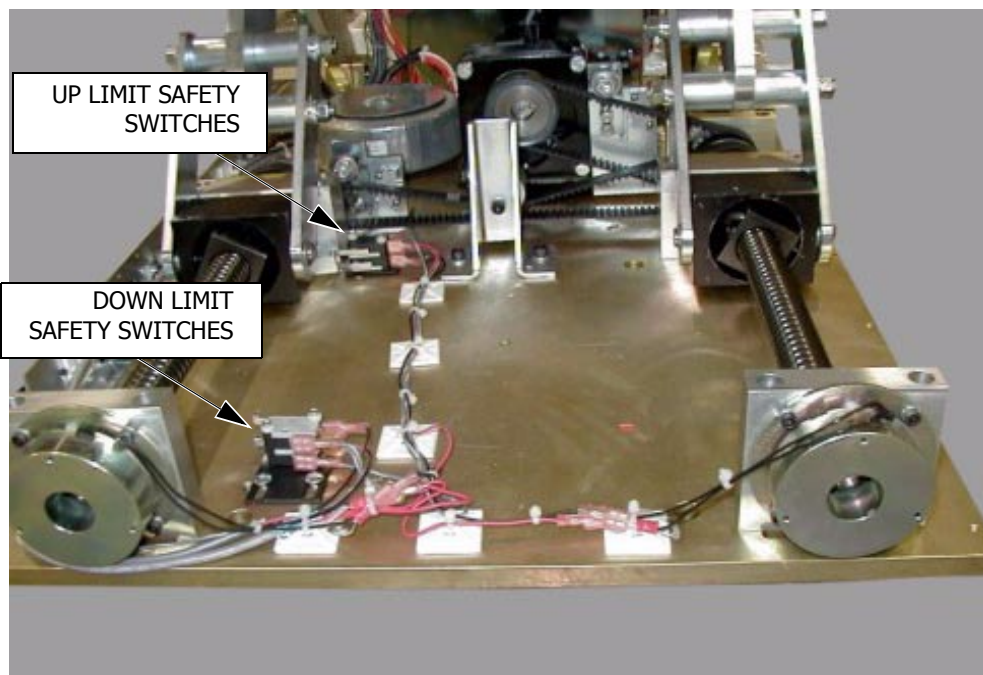

Figure 9. Up/Down Limit Switch Locations
4. While running the table down, manually activate each Down Limit Safety Switch (S7 and S10, see Figure 9). The table should stop driving down.
5. While running the table up, manually activate each Up Limit Safety Switch (S8 and S9, see Figure 9). The table should stop driving up.